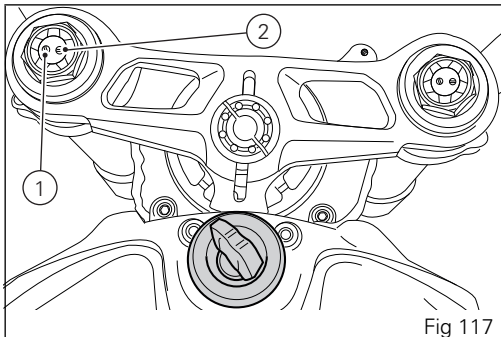

Fig 117
- 1) to adjust the rebound damping (1, Fig 117);
- 2) to adjust the compression damping (2, Fig 117);